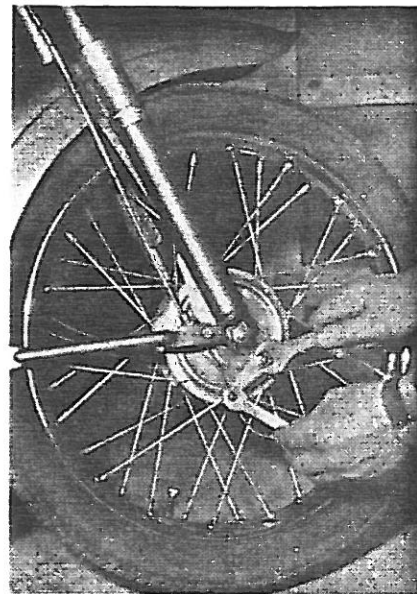

fig. 12
12. Use wrench on large nut of actuating lever to move lever upward and hold in this position while tightening cable clamp. (Fig. 12).